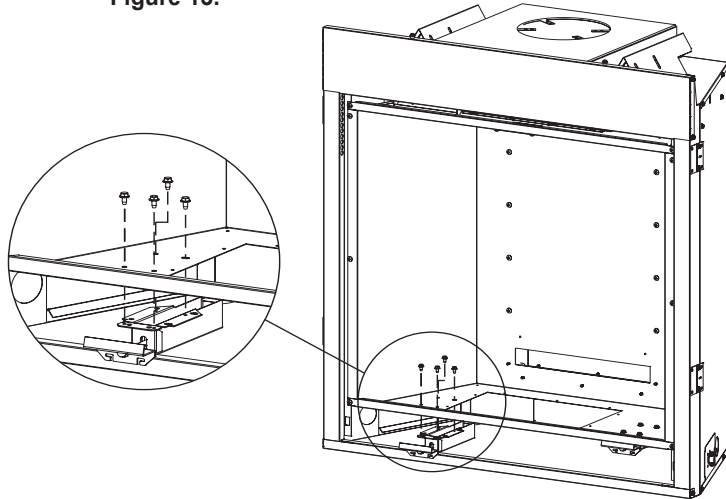

Figure 13
9. Remove the four #10 X 1/2" screws securing the latch assembly to the underside of the firebox and set aside. **See Figure 13.**
12. Reinstall the latch assembly removed in step 9. **See Figure 13.**